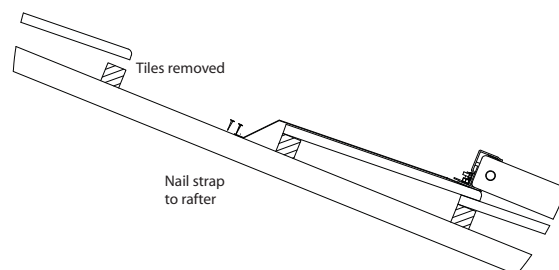

Figure 17 - Attach Mounting Straps
- Attach the collector mounting straps to the rafter or truss under the tiles as shown in **Figure 17**.